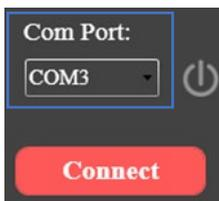

Figure 4.1.1 Select COM port
- 4、 Click the drop-down list below "COM port" icon, click "Connect" icon, build up connection between PC and programmer. (Figure 4.1.1, 4.1.2, 4.1.3) .